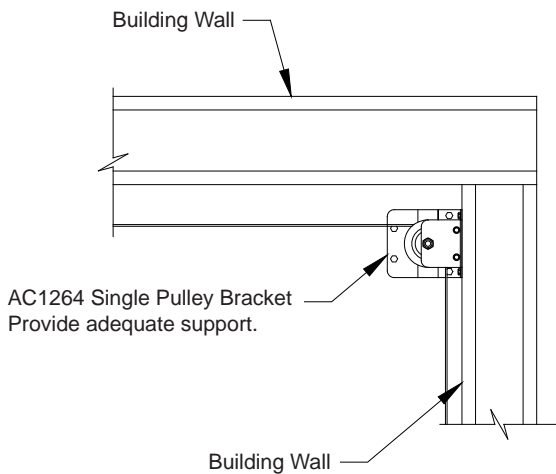
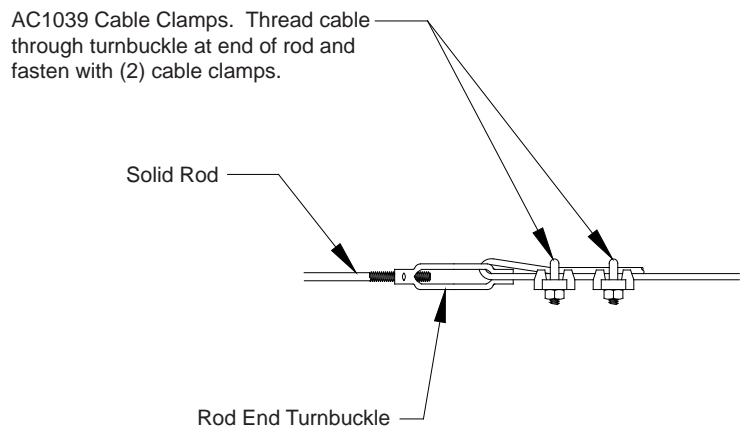

Figure 3
Figure 4
Attach pulleys in line with screw hooks at each endwall. See Figure 3.
- Pull main cable from winch through pulleys and screw hooks to weights or return springs on opposite endwall. See Figure 3 and 5. Be sure to coil approximately 1 ft. of cable on winch.
- Attach one lift line to main cable using (2) cable ferrules (supplied) and pliers. Lift lines should be attached 14" back from hook toward the winch end.
- C. Pull cable from winch through pulley (See Figure 3) and loop through first turnbuckle and fasten it to itself with cable clamps. See Figure 4. Be sure to coil approximately 1' of cable on winch.